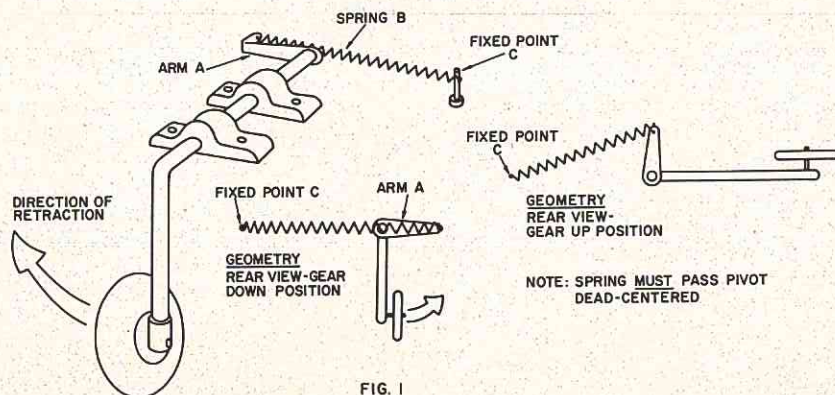
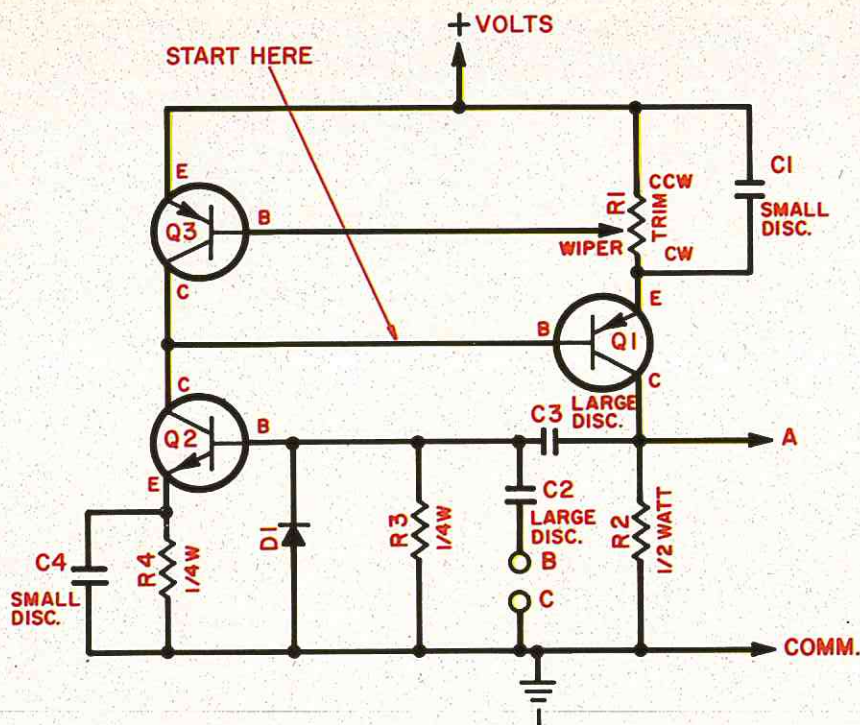

FIG. 1
FIG. 2
To balance a unit correctly we must have the leg installed, hinged, and free to retract. The wheel, landing gear "dressing", and door(s), if any, must be on. In other words, all weight must be present at this time. See Fig. 1, which shows a balanced set-up. Solder the arm (A) onto the rear of the leg and run a spring (B) to some fixed point (C) out in the wing.
First, prepare your schematic with bold straight lines (Fig. 1). Add everything you can think of to your schematic — like emitter, base, collector, resistor-in-watts, etc. Your concentration must remain on circuit routing instead of what's what (Fig. 2).
With a yellow pencil, draw over all lines that go from point-to-point and do not break with a resistor, capacitor, etc. (Fig. 2).